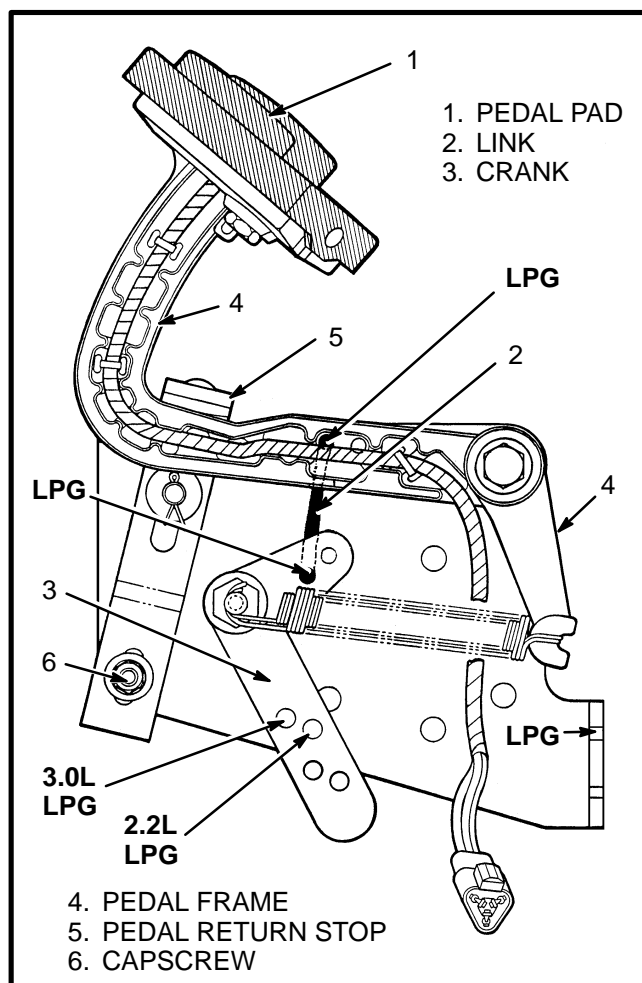

FIGURE 19. MONOTROL PEDAL
4. Adjust the pedal return stop (see FIGURE 19.) so that there is no tension on the throttle cable at the idle position. Do the following to check this adjustment:
#### Check The Monotrol Pedal (See FIGURE 19.)